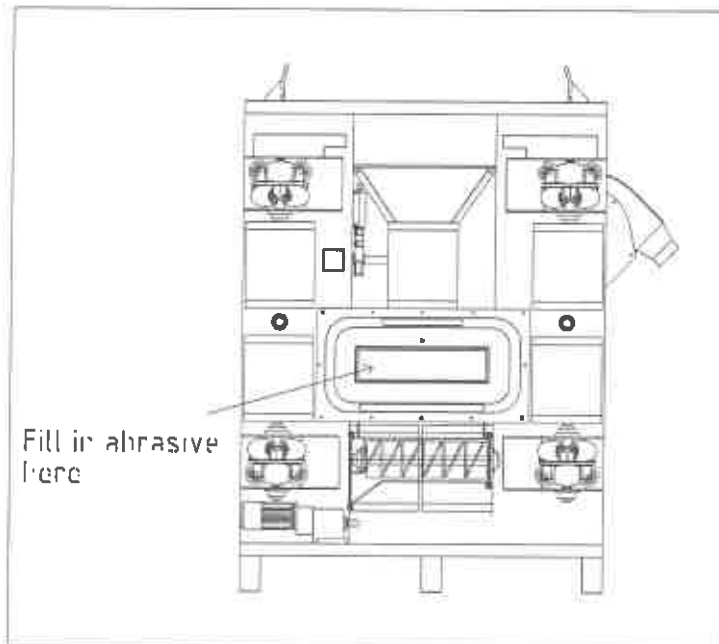

Fig. 5.1
- ☐ Check the level of abrasive in the storage hopper. Refill if necessary (see fig. 5.1).